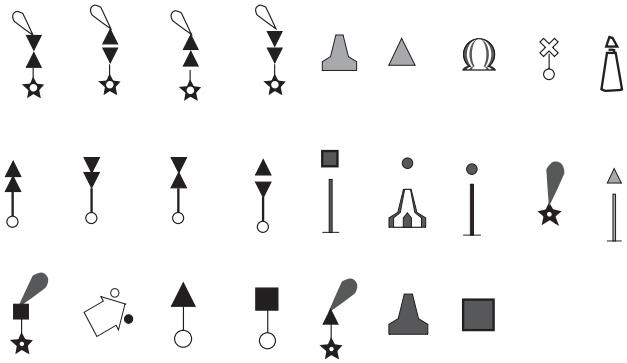

Figure 98.2 Chart symbols that could be used in this exercise
1. Make a copy of Figure 98.3 and use the chart symbols in Figure 98.2, as well as any others you may feel appropriate, to plan a buoyage system for the new marina, airport and harbour town development.